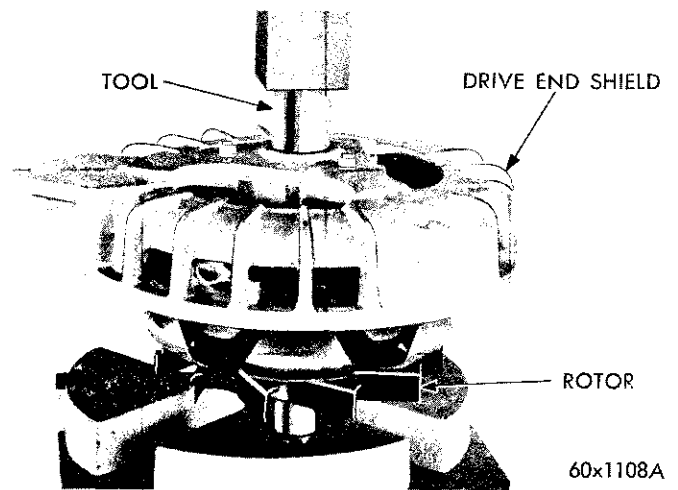

Fig. 44—Installing Drive End to Shield and Bearing
(7) Position the bearing and drive end shield on the rotor shaft and, while supporting the base of the rotor shaft, press the bearing and shield into position on the rotor shaft with arbor press and Tool C-3769 (Fig. 44).